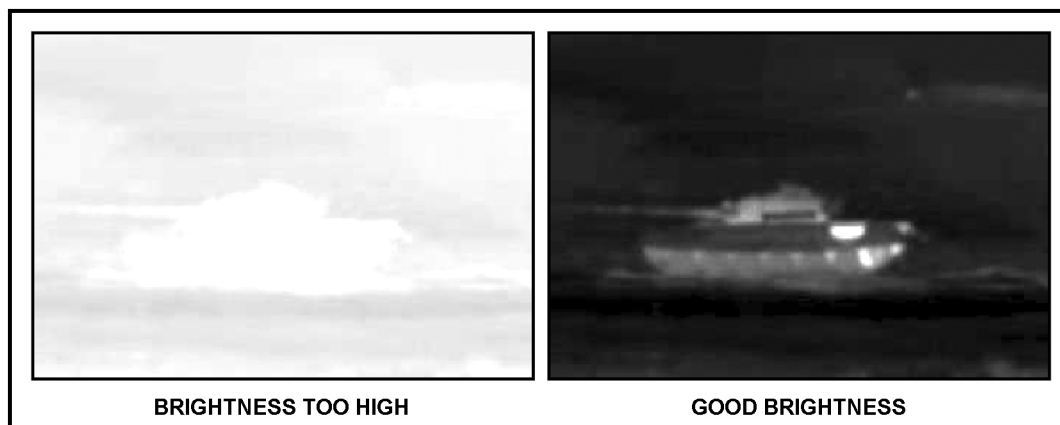

Figure C-21. High versus good brightness adjustments.
- When the brightness is too high (Figure C-21), most objects in the target scene appear bright green, a few appear in shades of green, and none are black. The gunner decreases the brightness by selecting BRT on the BCF menu and pressing the BCF switch down. This decrease drives down the intensity of all objects until some of them appear black.